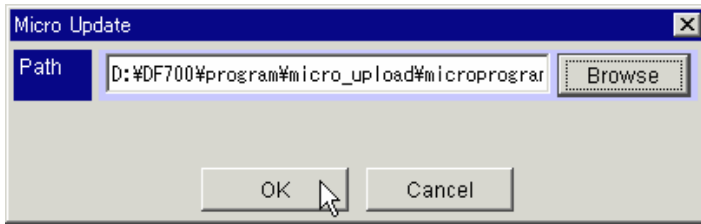

Figure 5.58 Specify Path Window
8. On the **Specify Path** window (see Figure 5.58), specify the download directory by either entering the path or browsing to select the path, and then click **OK**. A sample path is shown in Figure 5.59.